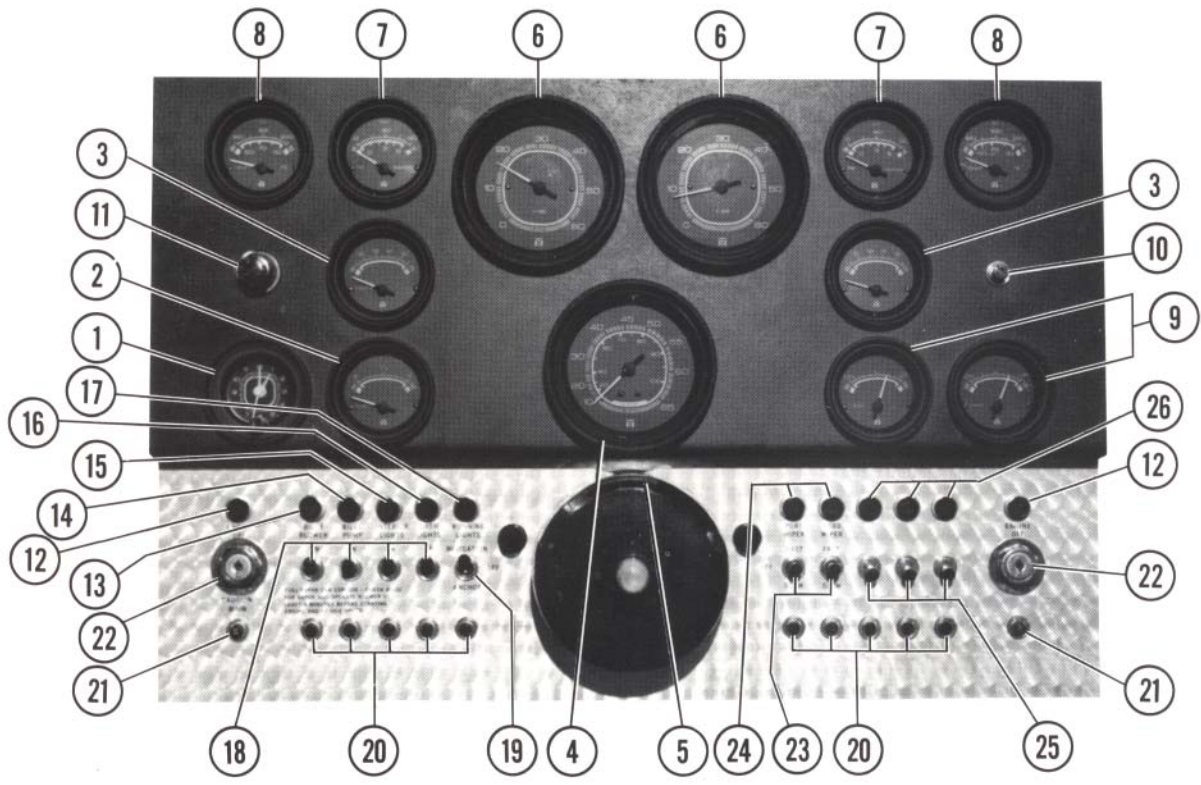

Figure 1
6. Instrument Panel (See Figures 1 and 2)